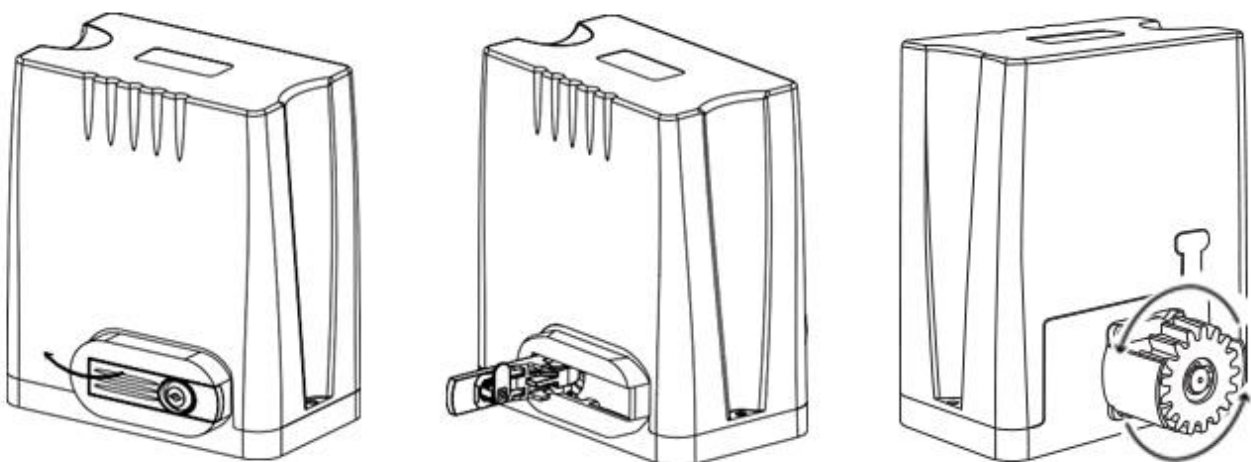

Fig 15
- Insert the key and open the manual release bar to put the motor into manual mode, and check that the motor cog rotates freely by hand (As per Fig 15).
- Insert the key and open the manual release bar to put the motor into manual mode, and check that the motor cog rotates freely by hand (as per fig 15).